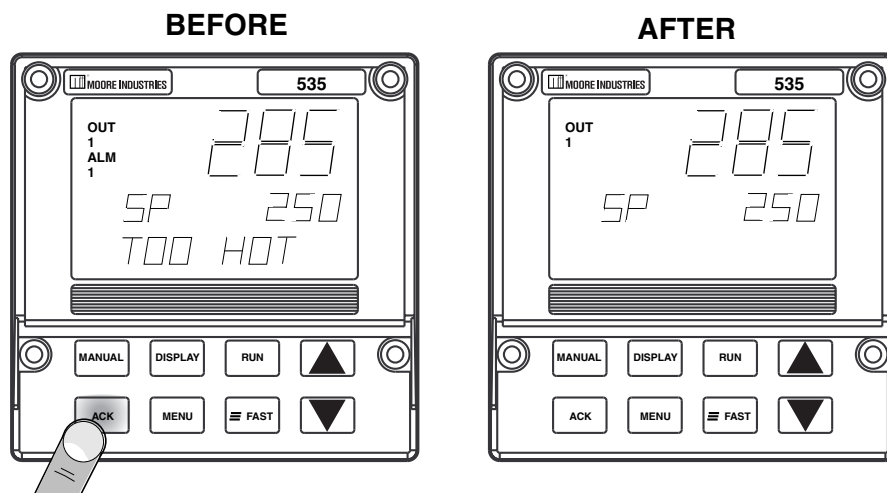

Figure 2.2
4. The message and alarm icon disappear. Refer to *Figure 2.2*.